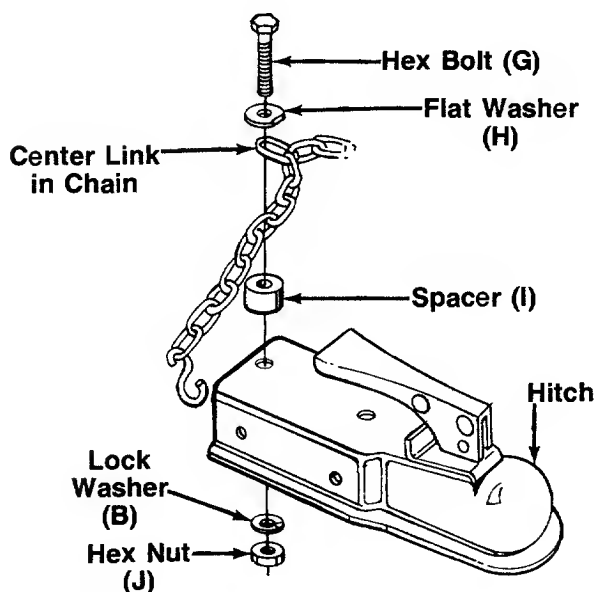

FIGURE 5.
- a. Place flat washer (H) on hex bolt (G).
- c. Place spacer (I) on hex bolt.
- d. Insert hex bolt through hole in the top of tow hitch as shown in figure 5.
- e. Secure with one lock washer (B) and hex nut (J). Tighten using two 9/16" wrenches.